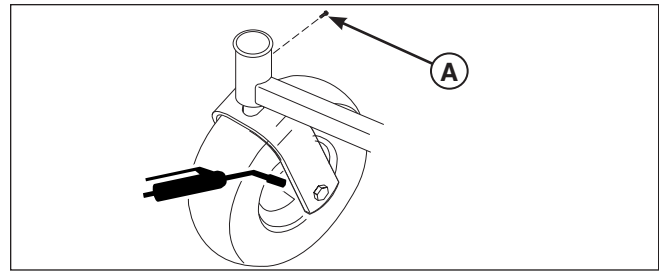

Figure 31. Front Caster & Wheel
1. Remove the 1/4-28 bolt (A, Figure 31) screwed into the caster and install a 1/4-28 grease fitting.